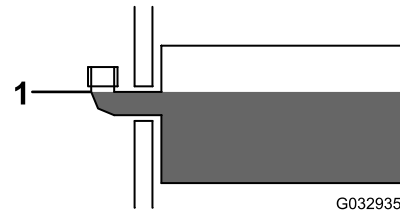

Figure 29
3. Remove the fill cap from the hydraulic reservoir (Figure 29).
4. Slowly fill the reservoir with BOSS high-performance hydraulic fluid to the bottom of the fill elbow (Figure 29).